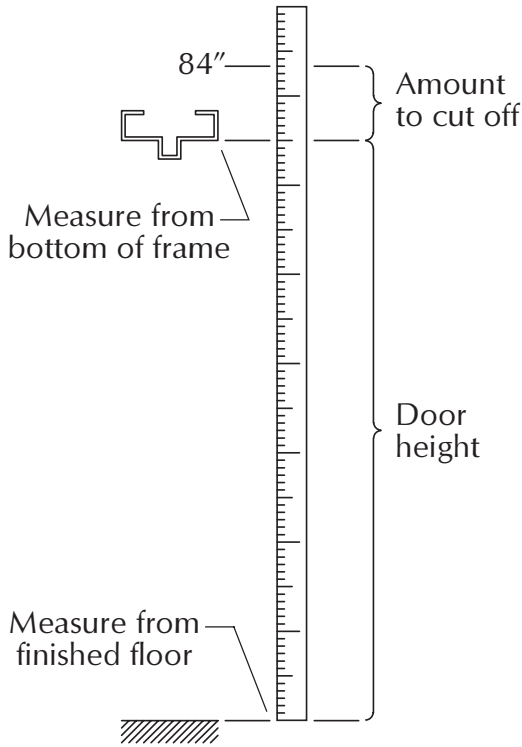

Figure 7-1
- 7.1. Find amount to cut off (Figure 7-1).